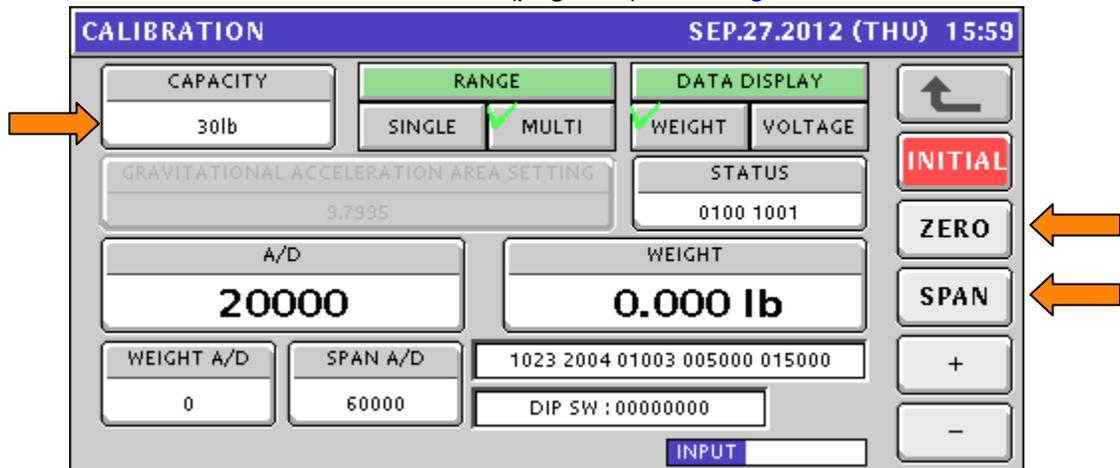

Figure 8.1. Calibration Screen
- Scroll down and select **CALIBRATION** (page 2/3). See Figure 8.1.